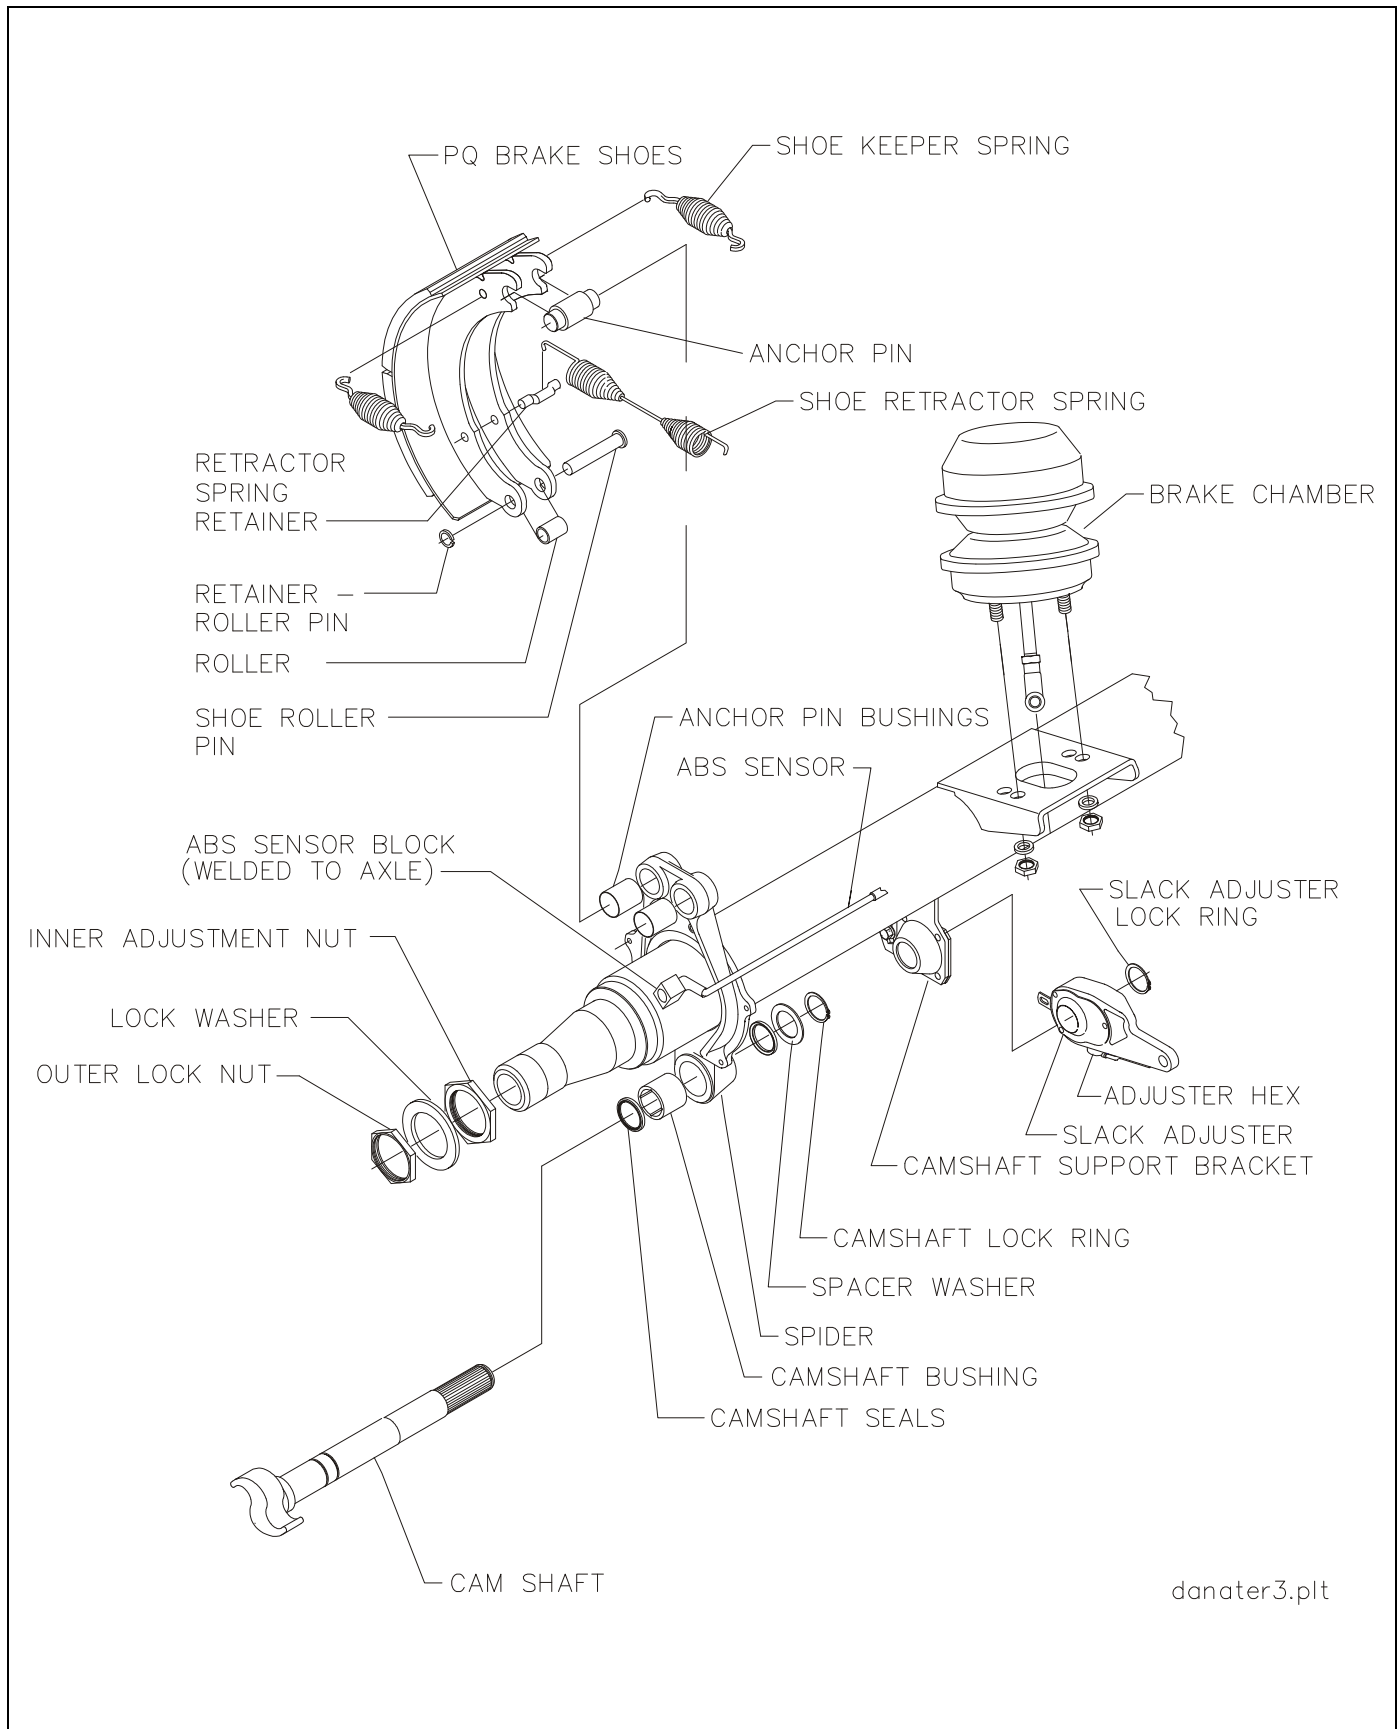

Figure 4-13: Axle and Brake Assembly
2. Remove slack adjuster lock ring and slack adjuster (See Figure 4-13.)
1. Release brakes and back off slack adjuster (**See Figure 4-13.**)